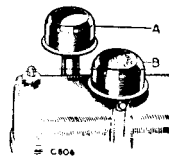

Fig. 38. Engine breather filters,
The oil level dipstick is on the left-hand side of the engine and is accessible when the bonnet panel is raised. There are three marks H (High), L (Low) and Min (Minimum). When using the Land-Rover on the road the oil level should not be allowed to fall below the minimum level mark, that is the lower line on the dipstick. However, when using the Land-Rover on cross-country work in circumstances which involve it being used at steep angles the oil should not be allowed to fall below the intermediate mark, that is the low level. This will obviate any danger of oil pump starvation when the vehicle is facing downhill at a steep angle. The oil filler is on the right-hand front corner of the engine. (See Fig. 38).
Remove the filters and wash the gauze thoroughly by swilling in kerosene. Re-wet the gauzes by dipping in clean engine oil and shake off the surplus; replace the top rocker cover breather (B) with the slot facing the front of the vehicle and the oil filler pipe cap (A) with the slot facing the rear. See Fig. 38.